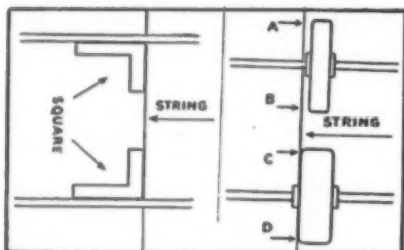

Figure 20
2. Determine if shafts are parallel by placing taut string between shafts and check with large square (Fig. 20).